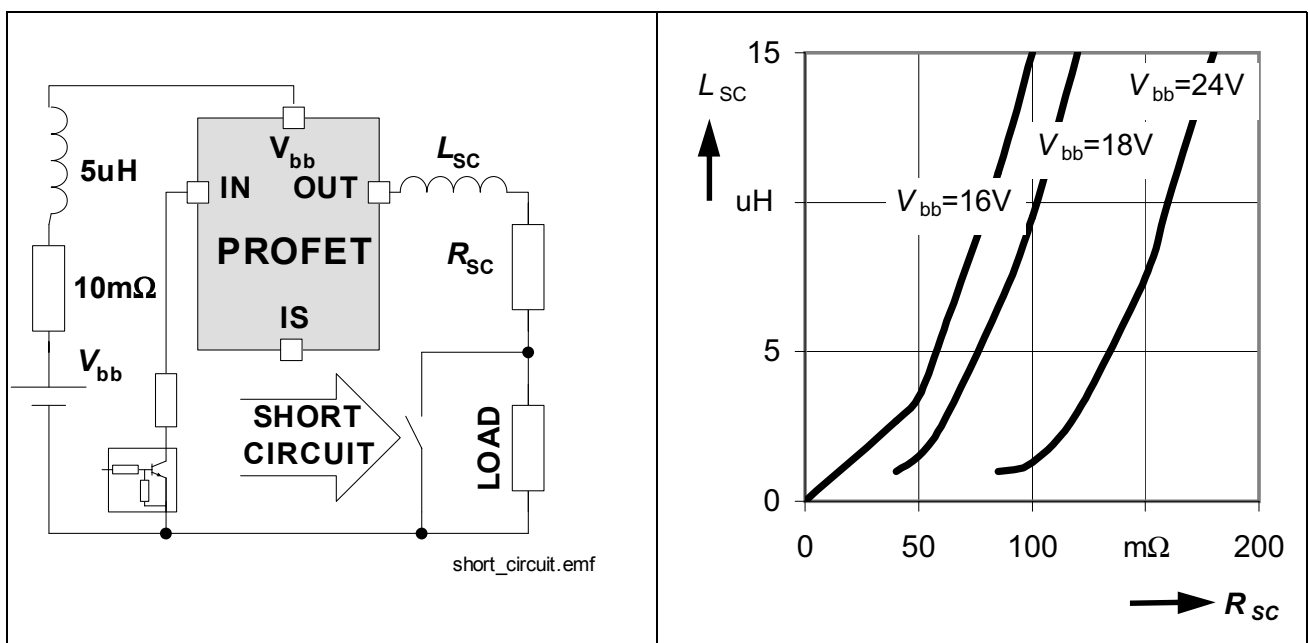

Figure 13 Short circuit
- 1) Short circuit is defined as a combination of remaining resistances and inductances. See Figure 13.
The capability to handle single short circuit events depends on the battery voltage as well as on the primary and secondary short impedance. Figure 13 outlines allowable combinations for a single short circuit event of maximum, secondary inductance for given secondary resistance.